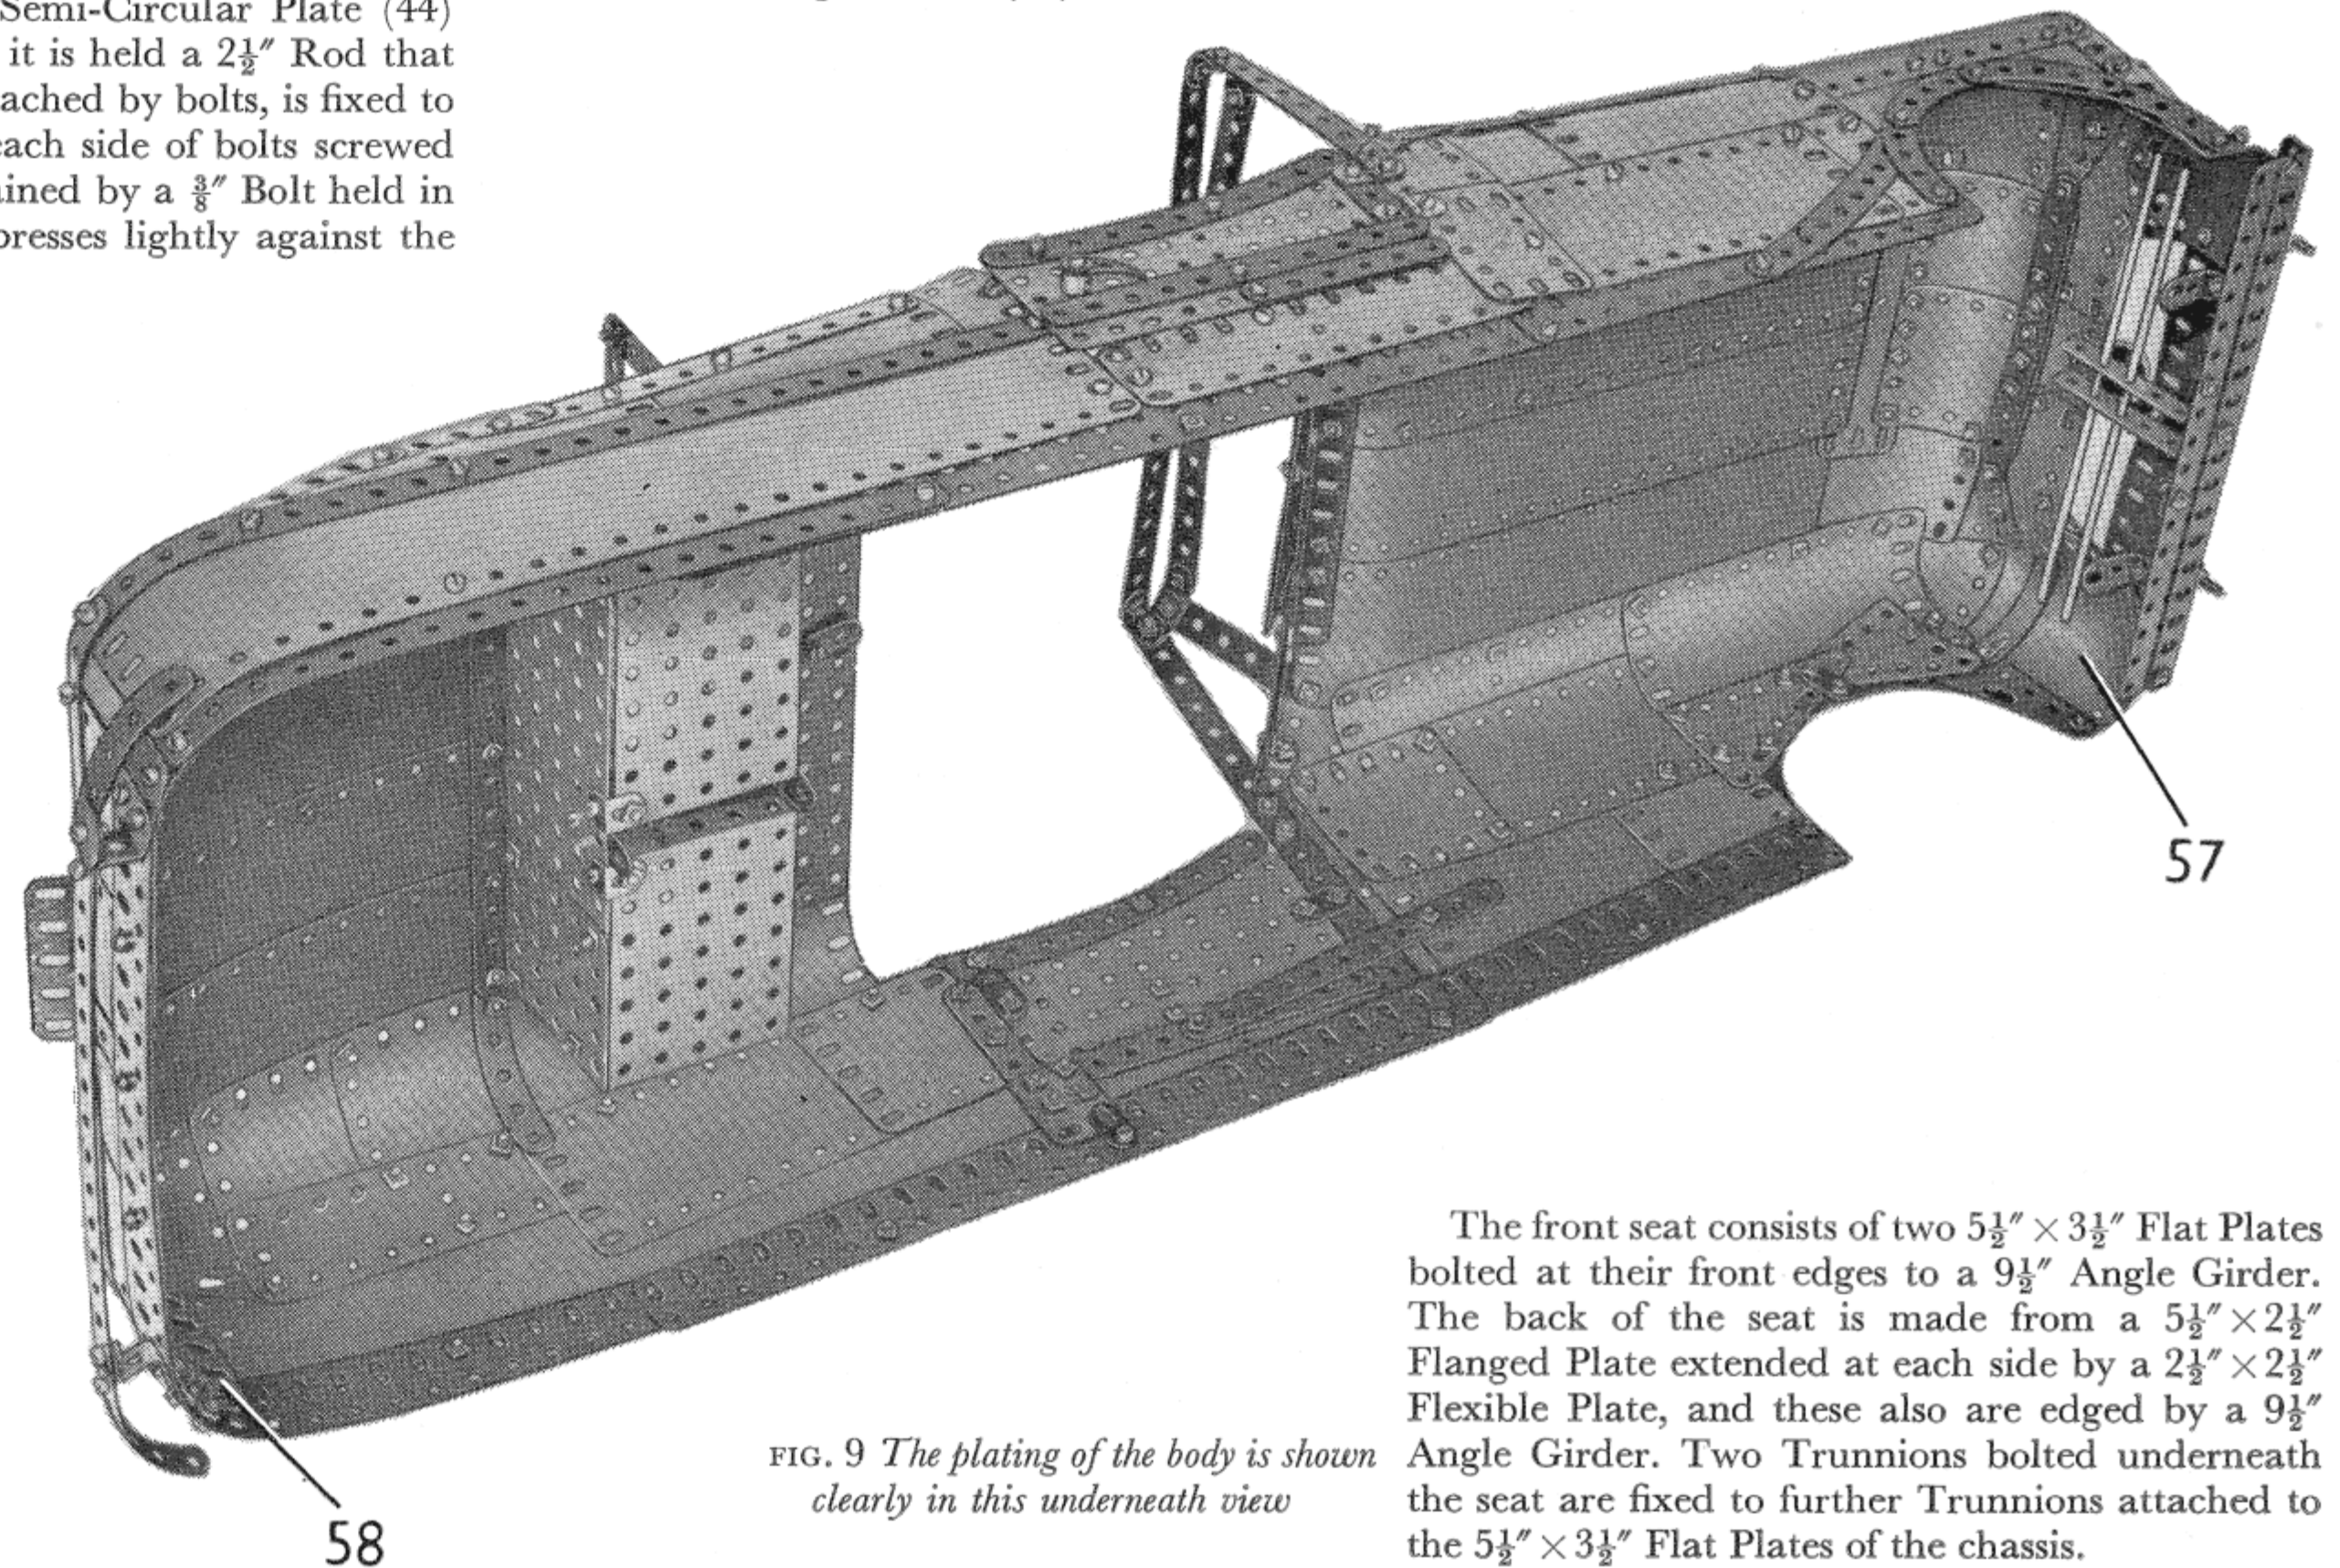

FIG. 9 The plating of the body is shown clearly in this underneath view
attached to the front by Angle Brackets, and this supports a $9\frac{1}{2}"$ Angle Girder that forms the front bumper. The Plates (57) are extended upward by $5\frac{1}{2}" \times 1\frac{1}{2}"$ Flexible Plates, which are joined at their inner ends to a $2\frac{1}{2}" \times 1\frac{1}{2}"$ Flexible Plate. The inner edges of the Plates (57) and the $5\frac{1}{2}" \times 1\frac{1}{2}"$ Flexible Plates are strengthened by two $2\frac{1}{2}"$ Curved Strips and a $5\frac{1}{2}"$ Curved Strip. Two $8"$ Rods are held by Spring Clips in $2\frac{1}{2}"$ Angle Girders bolted vertically to the front (see Fig. 9).